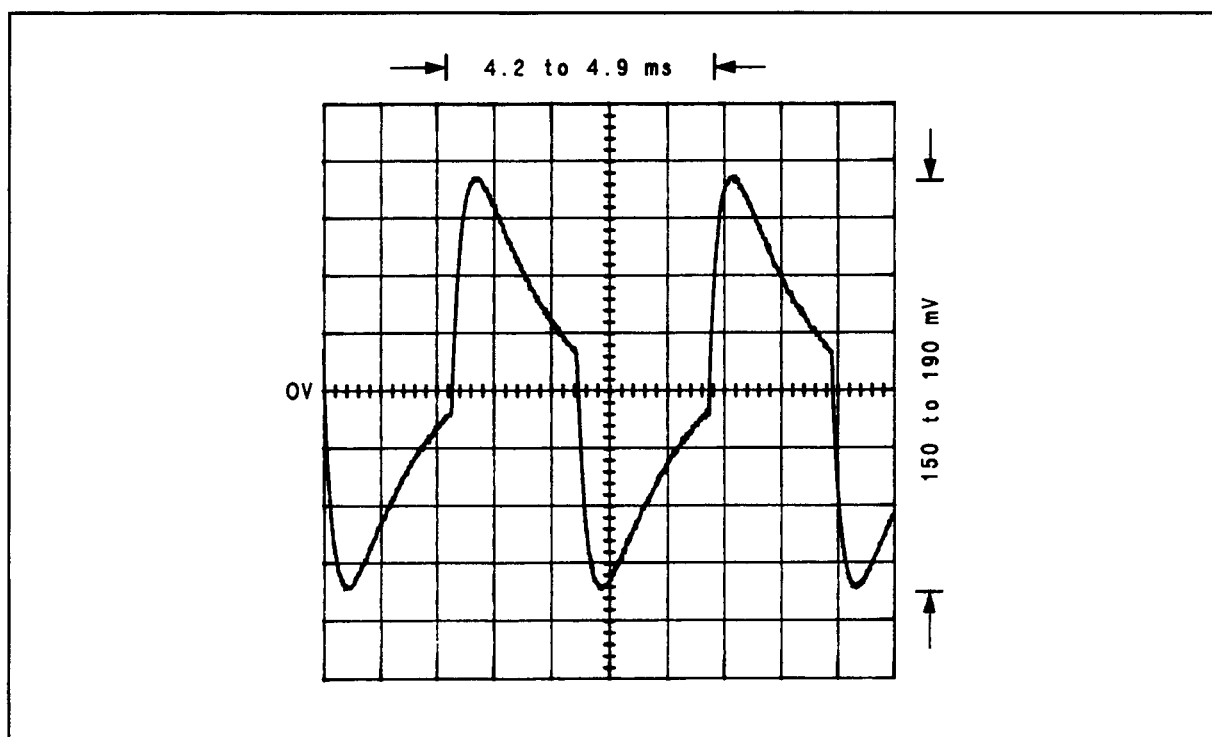

Figure 8F-3. Waveform for √2 Step 3
3. Connect the oscilloscope to pin 2 of U4A. Key in 0.209 SPCL to switch U4A on and U4B off. The waveform on the oscilloscope display should appear as shown in Figure 8F-3.